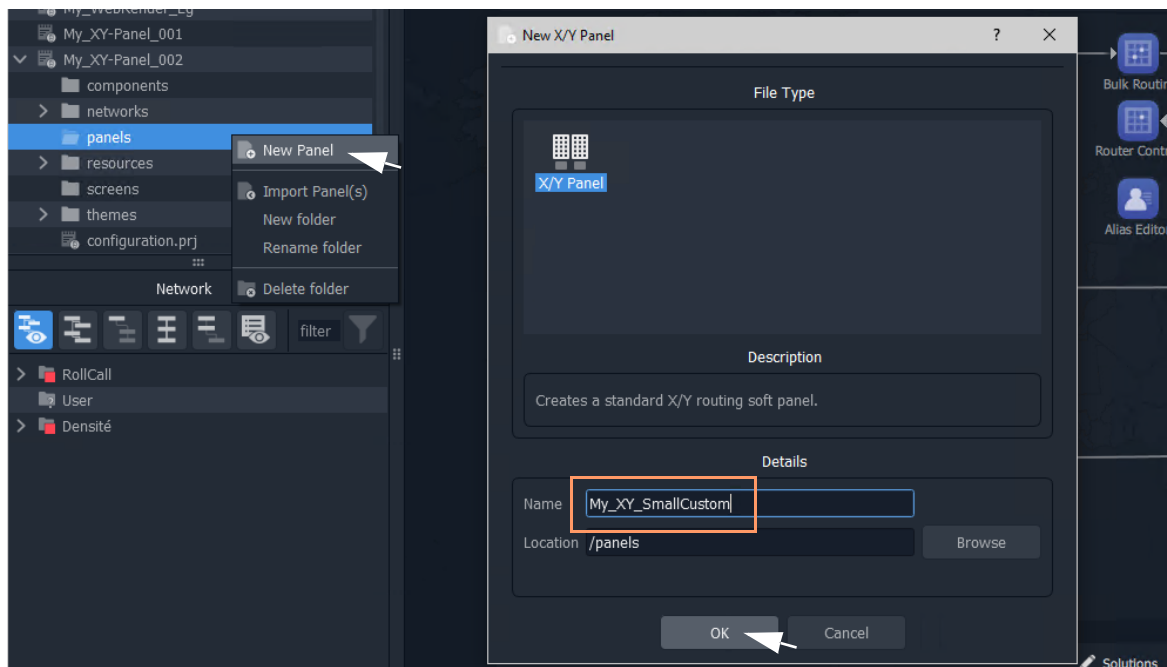

Fig. 12-38: Create New XY Panel
- 3 Enter a name into the **New XY Panel** dialog and click **OK**. See Figure 12-38.